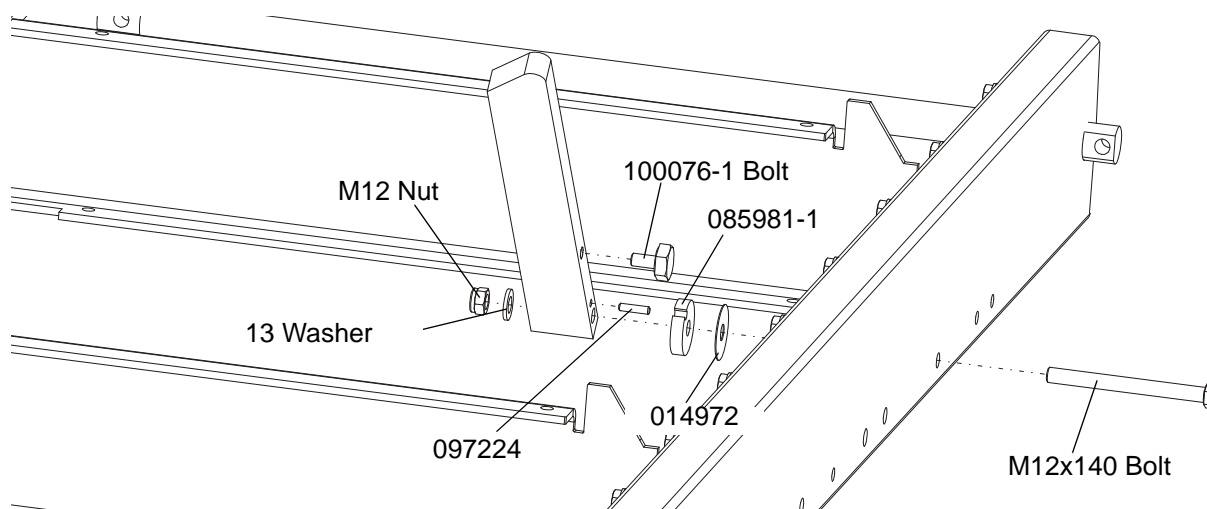

FIG. 2-8
- Install the log side supports as shown in Figure 2-8. Tighten the nuts so that the side supports can be moved with little resistance. See Section 6.11.
See Figure 2-8.